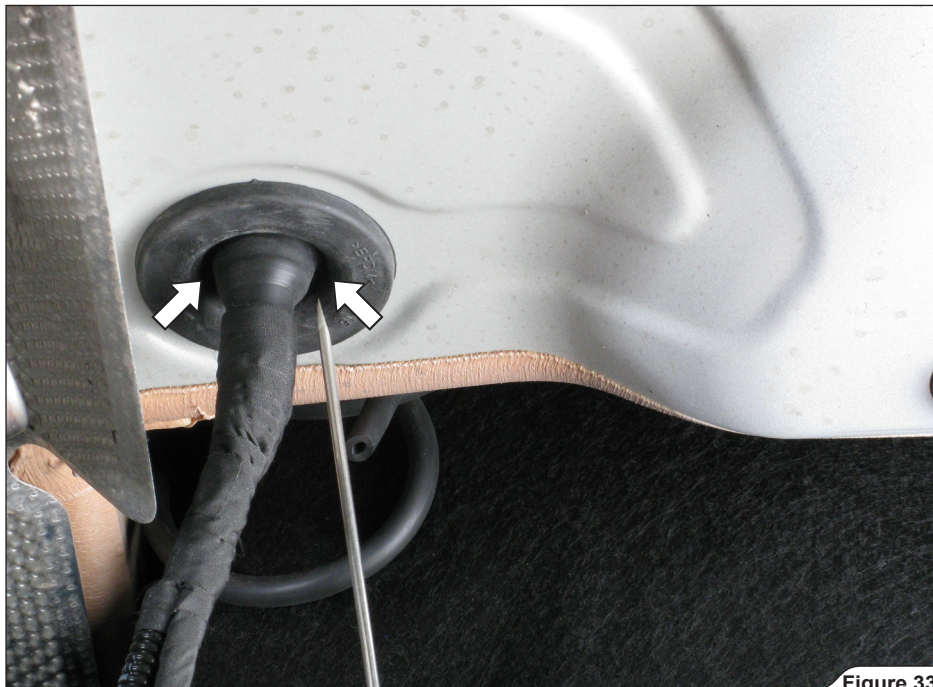

Figure 33
7. **For wireless kit installation:** puncture the sealing on two sides and insert Akrapovič PVC hoses (10 cm) in each puncture (**Figure 33, 34**).